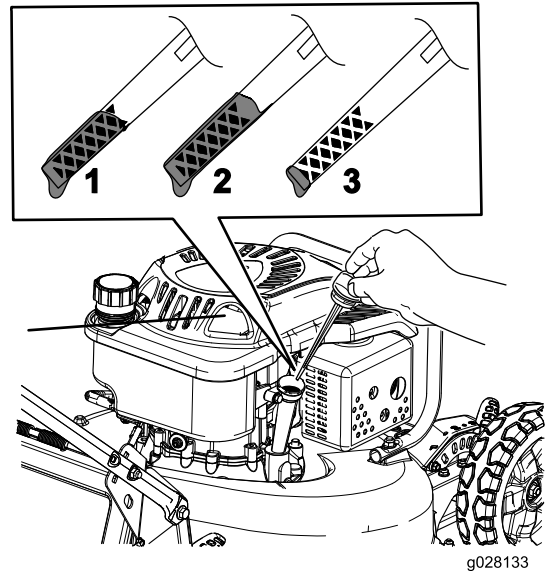

Figure 7
2. Remove the dipstick (Figure 7) and pour about 3/4 of the crankcase capacity of oil into the oil-fill tube.
5. Remove the dipstick and read the oil level on the dipstick (Figure 7).